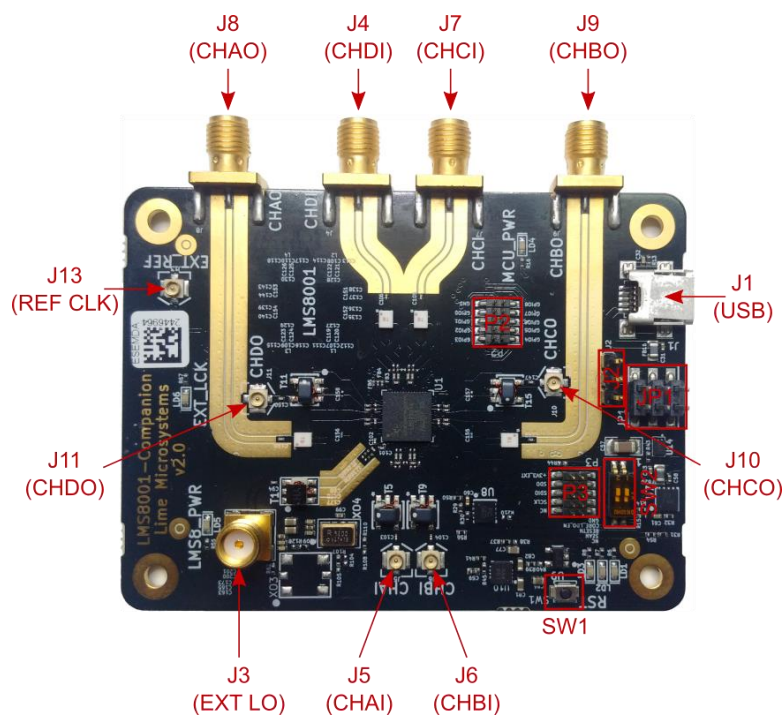

Figure 3:1: LMS8001 Companion Board RF connectors
Since GPIO signals will be used, it is necessary to connect the appropriate external signals to the P2 connector, shown in Figure 3:1.
1. Connect the appropriate DC supply via connector J2 and select the correct DC supply source using connector JP1, shown in Figure 3:1.
2. Connect the board to the PC using a USB cable. Refer to the USB Type-C connector J1 shown in Figure 3:1.